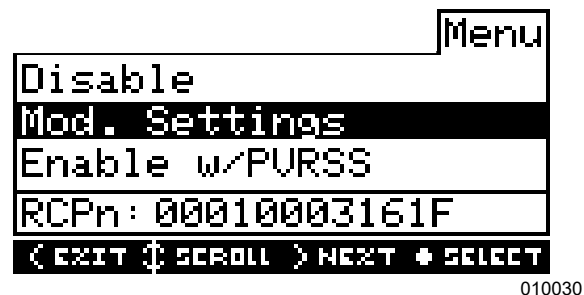

Figure 6-2. PVRSS Commissioning (1 of 4)
2. See Figure 6-2. Press the center button and select Mod. Settings to access device settings and options.